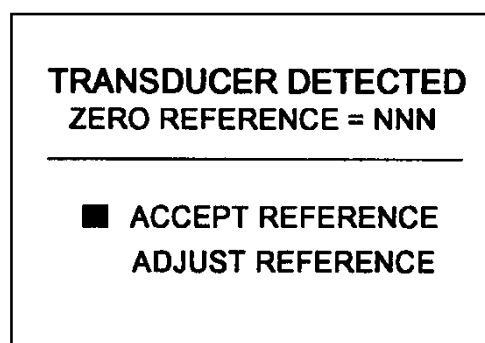

Figure 34
- 14.7.7 Verify that the DUT displays the message TRANSDUCER DETECTED ZERO REFERENCE = NNN / ACCEPT REFERENCE ADJUST REFERENCE", per Figure 34. Verify that the value NNN = 500. Record values.